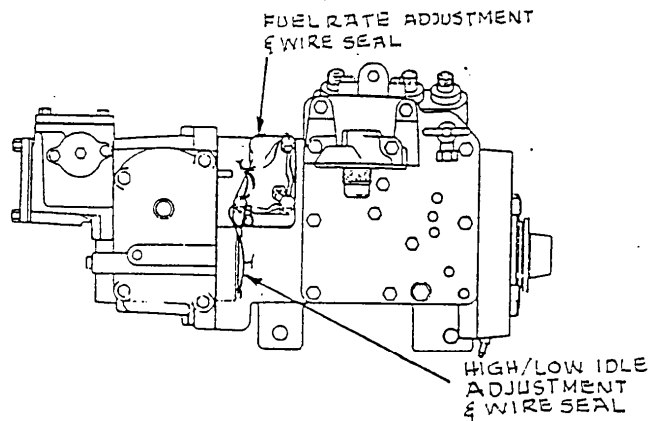

FIGURE 2 - SEALED ENGINE ADJUSTMENTS
- (WEEKLY) 7. () The fuel injection rate adjustment mechanism and the engine governor setting are locked and sealed. (FIGURE 2)